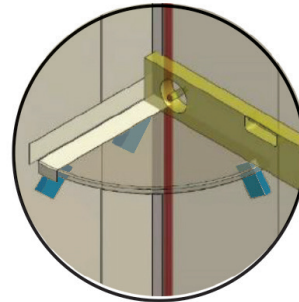

FIG 15.
- Place shelf in position and check for level. Optional - apply masking tape to shelf/wall (FIG 15).